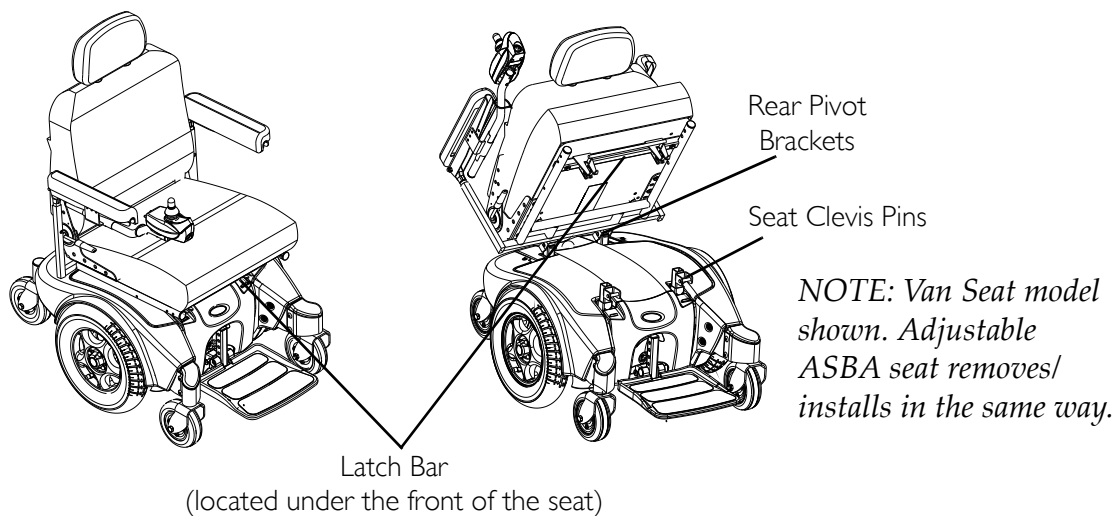

FIGURE 6.1 Removing/Installing the Seat Assembly
NOTE: For this procedure, refer to FIGURE 6.1 on page 47.
1. Position the seat in the rear pivot brackets as shown in FIGURE 6.1.